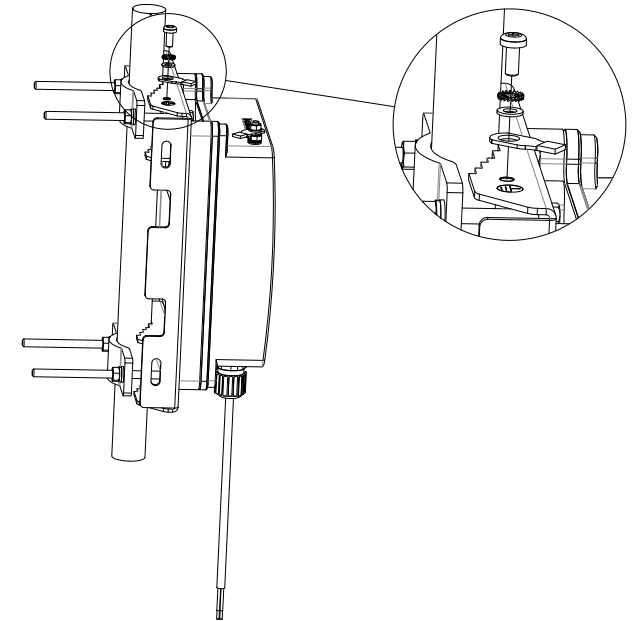

Figure 4
- b. Put a washer and a serrated washer onto each bolt and fasten in place on the upper part of the fore-panel (see Figure 4).